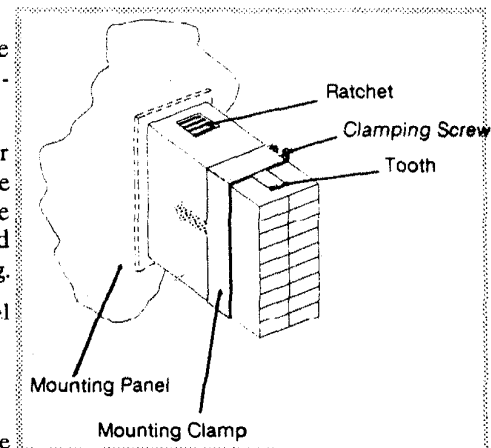
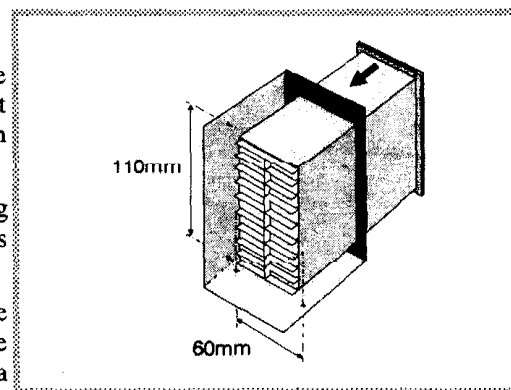

Figure 2-2 Panel-mounting a Controller
Figure 2-3 Chassis Mounting Bracket
2. Slide the mounting clamp into place on the controller (see Figure 2-2) and push it forwards until it touches the rear face of panel. Teeth on the arms which project to the rear of the clamp will engage with the ratchets moulded into the top and bottom surfaces of the controller housing.
The controller may be mounted in the same manner as the standard controller (see Subsection 2.2.2 and Figure 2-2) or it may be secured with a chassis mounting bracket as described in the following procedure (see also Figure 2-3):